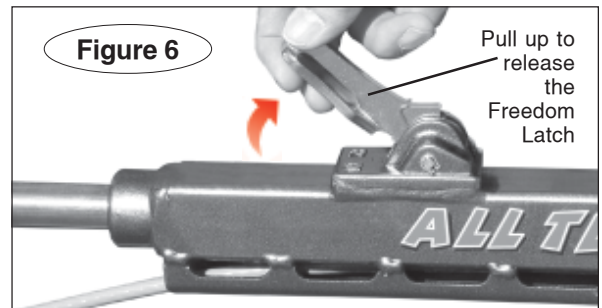

Figure 6
3. Lift the lever on the Freedom Latch (Fig. 6) to release the locking mechanism. Usually, one of the latches will require more pressure to release. This is the arm that has the majority of the tension between the two vehicles.